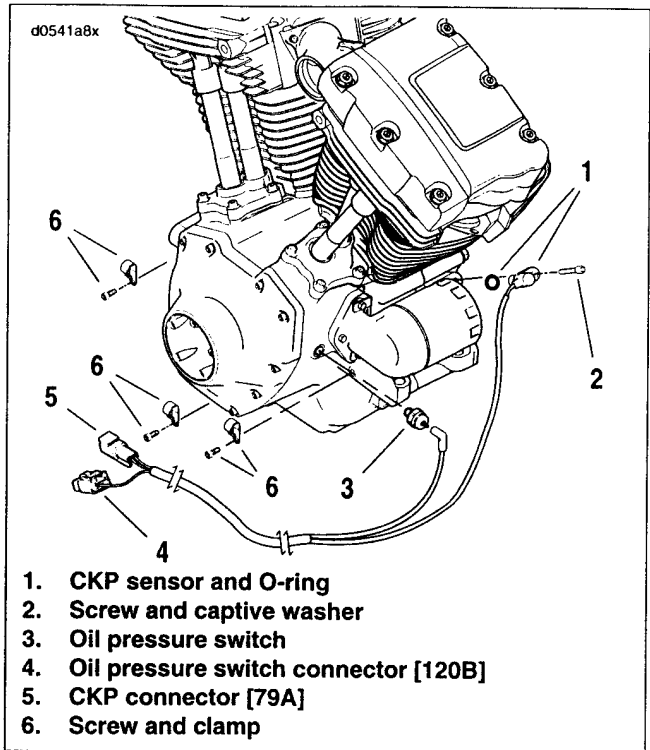

Figure 8-14. CKP Sensor Assembly
See Figure 8-14. The crank position sensor is a variable reluctance (VR) sensor that generates an AC signal by sensing the passing of the 30 teeth machined in the left side flywheel. Two consecutive teeth are missing in the flywheel to establish a reference point. The crank position sensor sends a signal to the ignition module which is used to reference engine position (TDC) and engine speed.
3. See Figure 8-14. Remove screws and clamps (6) from the crankcase, and from oil hose cover mounted on the transmission.
5. Detach wire from oil pressure switch (3).
6. Remove screw and captive washer (2) to detach CKP sensor and O-ring (1) from crankcase. Carefully remove crank position sensor.
1. See Figure 8-14. Lubricate CKP sensor O-ring (1) with clean engine oil.
4. See Figure 8-14. Attach connector sheath to crankcase with clamp and T20 TORX screw (6). Tighten screw to 25-35 **in-lbs** (2.8-3.9 Nm).
5. Attach wire to oil pressure switch (3).